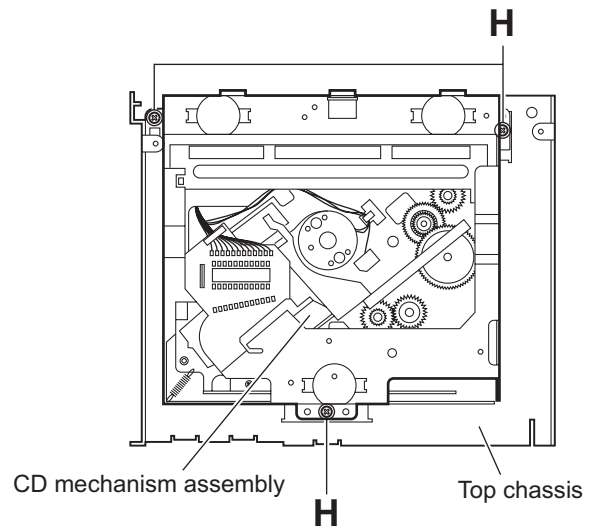

Fig.7
3.1.7 Removing the CD mechanism assembly (See Fig.7)